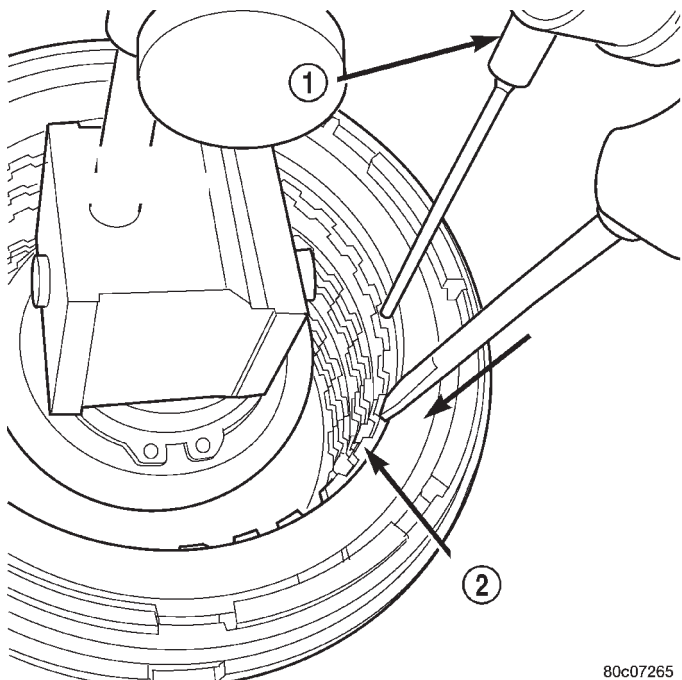

Fig. 284 Press Down on Reverse Clutch and Zero Indicator
(33) Using moderate pressure, press down and hold (near indicator) reverse clutch disc with screwdriver or suitable tool and zero dial indicator (Fig. 284). When releasing pressure, indicator should advance 0.005-0.010. as clutch pack relaxes.